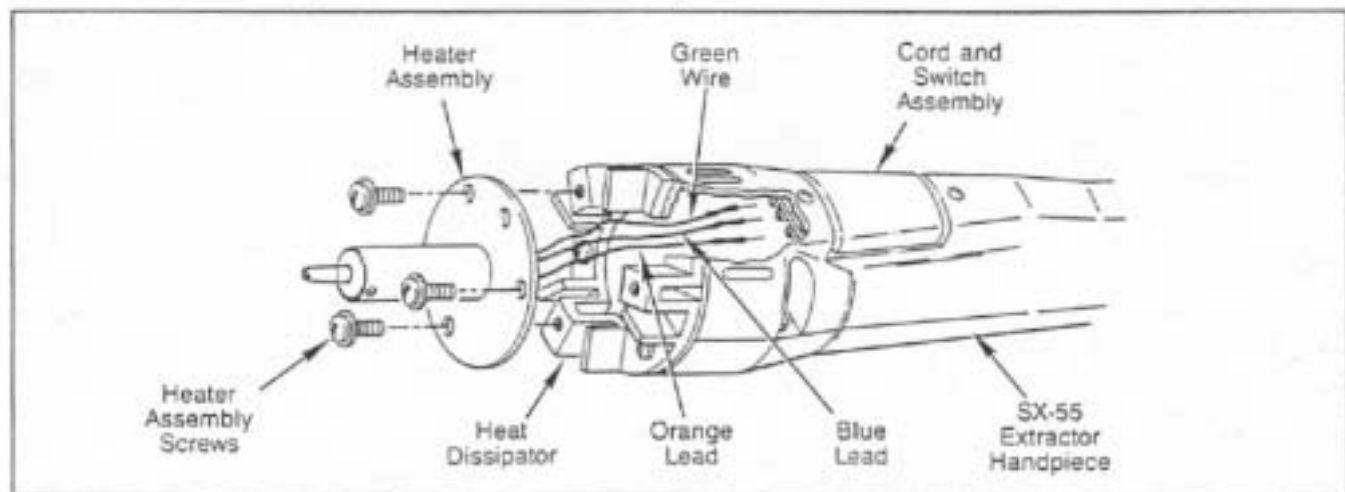

FIGURE 7. EXTRACTOR HANDPIECE HEATER ASSEMBLY REPLACEMENT
- remove three (3) screws on the Heater Assembly flange (refer to Figure 7), let Heater Assembly hang loose. (**NOTE: DO NOT** pull Heater Assembly from Handpiece at this time).
- using Tip Tool or needle nose pliers, disconnect the three (3) leads plugged into the Cord and Switch Assembly (refer to Figure 7). Remove defective heater Assembly from Handpiece.
- using Tip Tool or needle nose pliers, carefully plug the three (3) color coded leads of the new Heater Assembly into the color coded receptacles of the Vacuum Control Switch board.